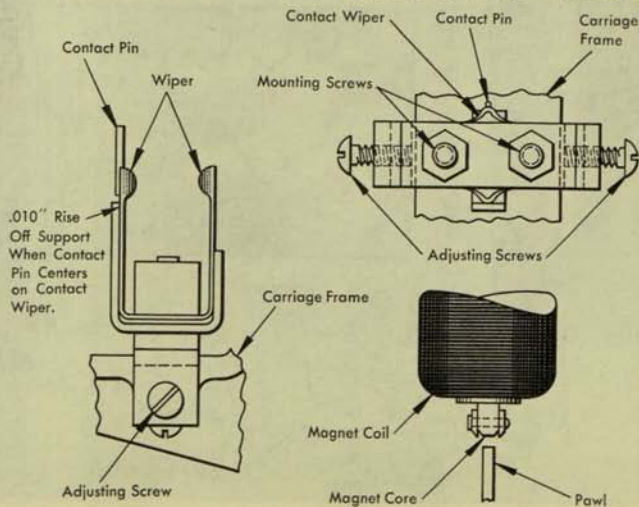

Figure 26
2. Adjust the carriage emitter contact wipers so that when the counter magnet core is centered directly over the counter disc pawl, the contact pin is centered on the emitter contact pin wiper (Figure 26).